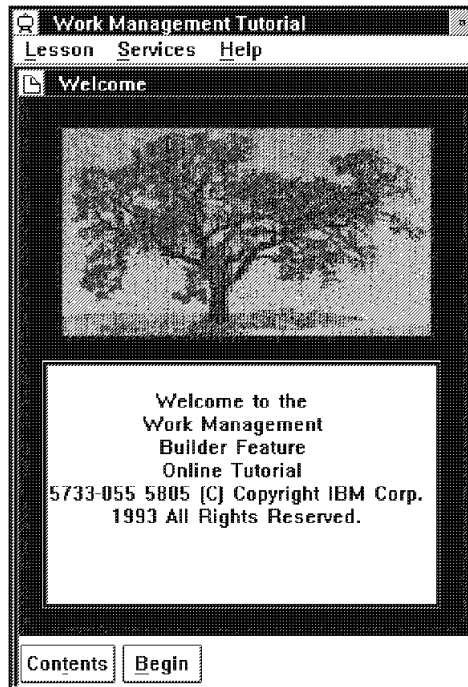

Figure 52. Work Management Tutorial Window
2. Double-click on the Work Management Builder Tutorial icon. You see the Work Management Tutorial window shown in Figure 52 on page 91.